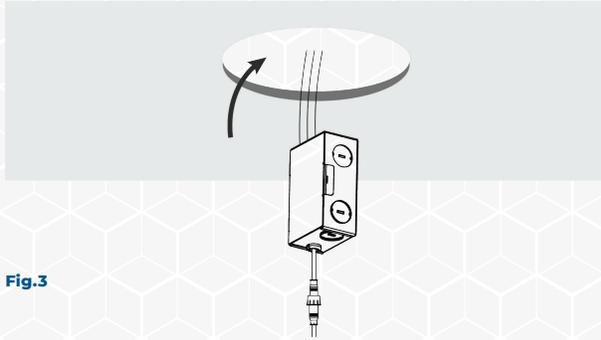
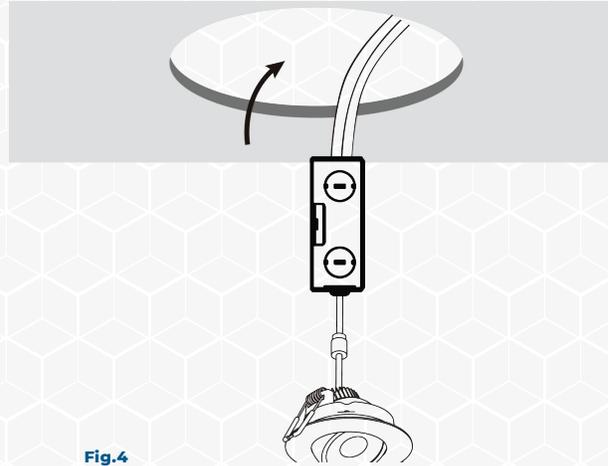

Fig.3
Fig.4
1. Connect the fixture to the hardwire box by inserting and twisting the male / female connectors. (see Fig.3 and Fig.4)